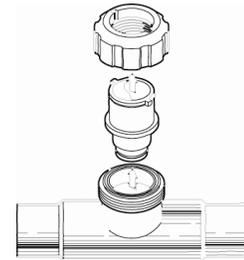

FIGURE 3
- Remove coupling ring(s) from probe housings on flow assembly. Then remove threaded insert(s) by gently pulling straight out. Insert is held in place by rubber O ring. (Figure 3).